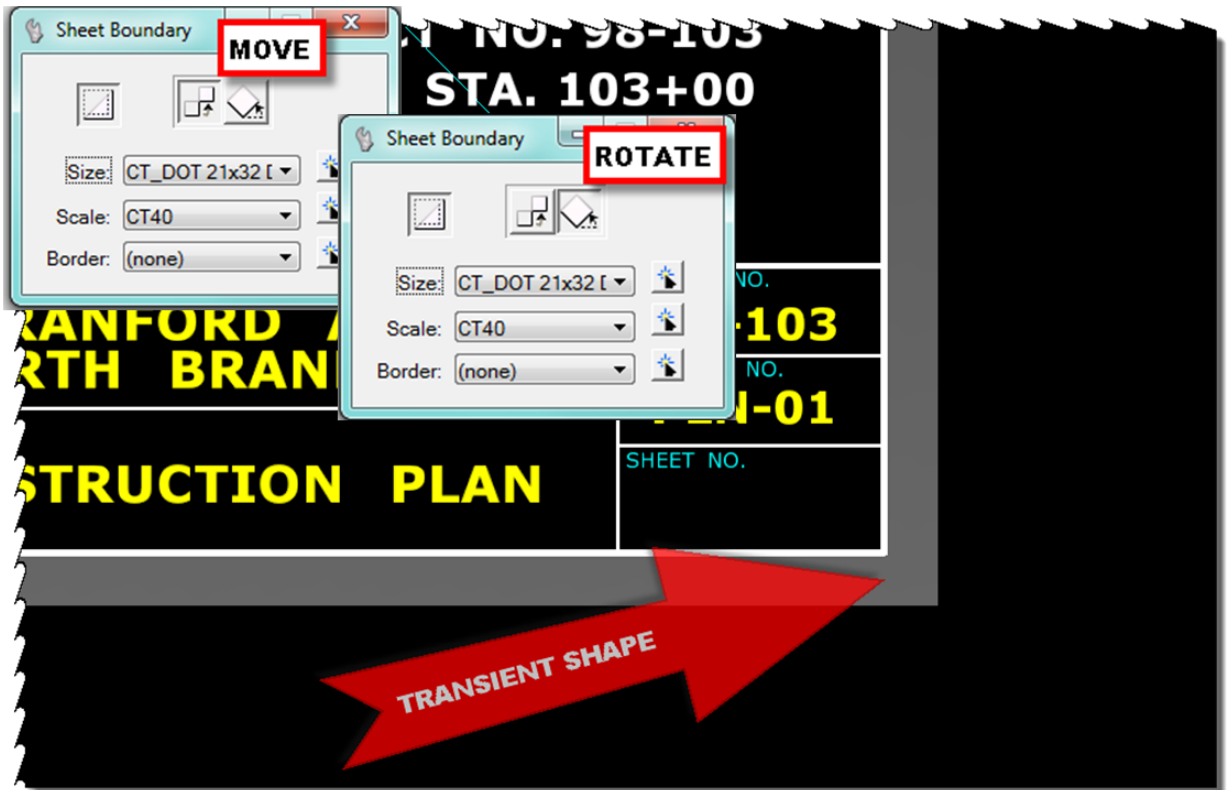

Figure 53 - Placing Transient Shape (Sheet Boundary)
5. On the Sheet boundary dialog box (Figure 53) click **Move**, click over the transient shape and move it to the desired location. **Click** to place it at the new location, **right-click** to release the move command. If you need to rotate the transient shape, click **Rotate** on the Sheet Boundary dialog box, follow the **MicroStation** command prompts (right bottom) to rotate the transient shape.